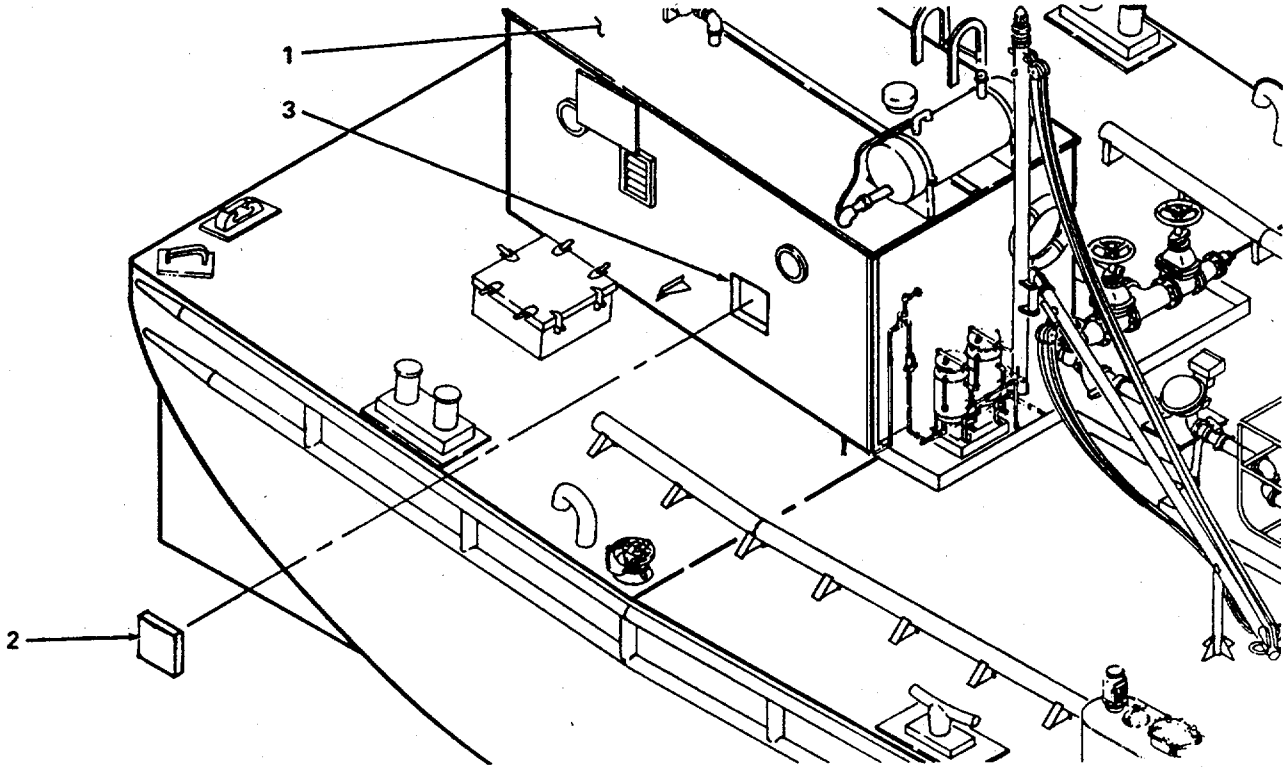

Figure 6-3. Machinery House Exterior Replacement.
- (1) Remove insert from machinery house exterior (1, figure 6-3).